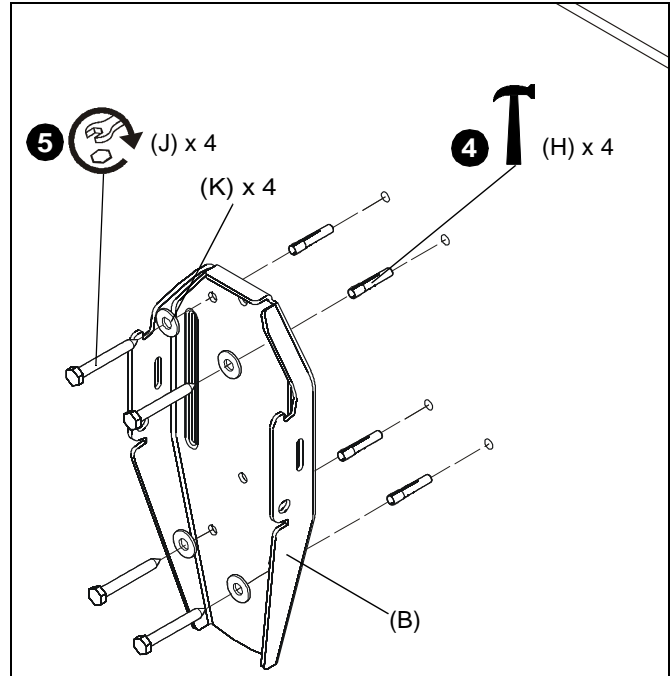

Figure 2
4. Install four concrete anchors (H) into drilled holes. (See Figure 2)
5. Install four 5/16 x 2 1/2" hex head lag screws (J) through four 5/16" washers (K), outer holes of mounting bracket (B) and into concrete anchors (H). (See Figure 2)